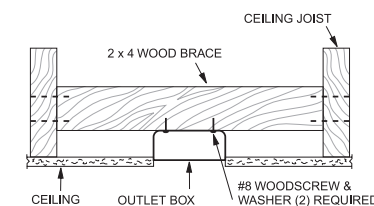

Figure 2
- Secure metallic outlet box 4" x 1-1/2" or 4" x 1/2" deep to 2 x 4 cross brace between two ceiling joists as shown in Figure 2. The outlet box must be recessed into the ceiling by 1/16" minimum. Secure the outlet box to the cross brace by drilling (2) pilot holes no larger than the minor diameter of the wood screws (5/64") and use two #8 x 1-1/2" wood screws and washers. Use the innermost holes for securing the box. Orient the box so the outermost holes will be used in Step 4B.